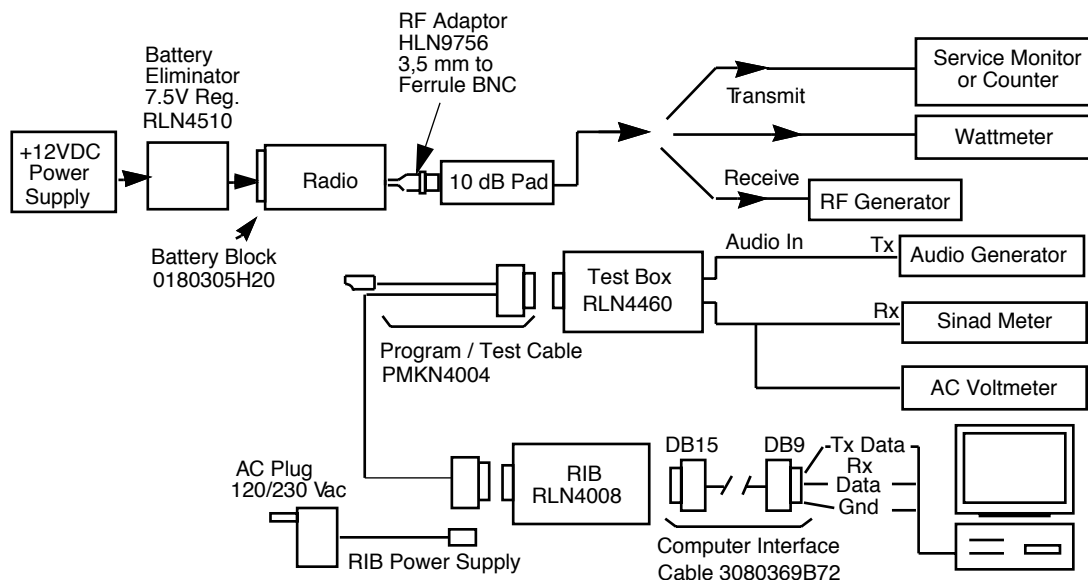

Figure 5-1 Radio Tuning Test Equipment Setup
A personal computer (PC) using Windows 95/98 and a tuner program are required to tune the radio. To perform the tuning procedures, the radio must be connected to the PC, radio interface box (RIB), and test equipment shown in Figure 5-1.
The supply voltage is connected to the radio using a Motorola battery eliminator, P/N 0180305H20. The initial test equipment (Figure 5-1) control settings are listed in Table 5-2.